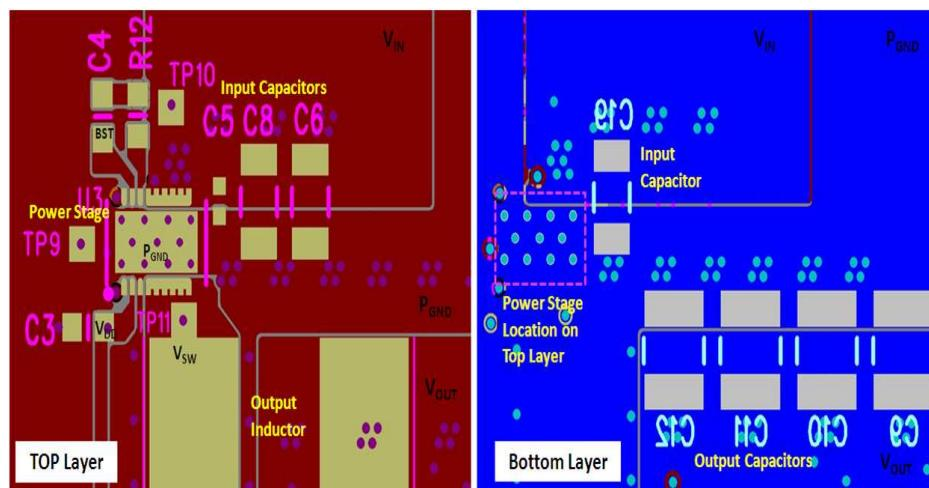

Figure 17. Recommended PCB Layout (Top Down View)
- The placement of the input capacitors relative to V_{IN} and P_{GND} pins of CSD97376Q4M device should have the highest priority during the component placement routine. It is critical to minimize these node lengths. As such, ceramic input capacitors need to be placed as close as possible to the V_{IN} and P_{GND} pins (see Figure 17). The example in Figure 17 uses 1 x 1-nF 0402 25-V and 3 x 10-μF 1206 25-V ceramic capacitors (TDK Part # C3216X5R1C106KT or equivalent). Notice there are ceramic capacitors on both sides of the board with an appropriate amount of vias interconnecting both layers. In terms of priority of placement next to the power stage C5, C8 and C6, C19 should follow in order.
- Use the smallest drill size allowed in your design. The example in Figure 17 uses vias with a 10-mil drill hole and a 16-mil capture pad.